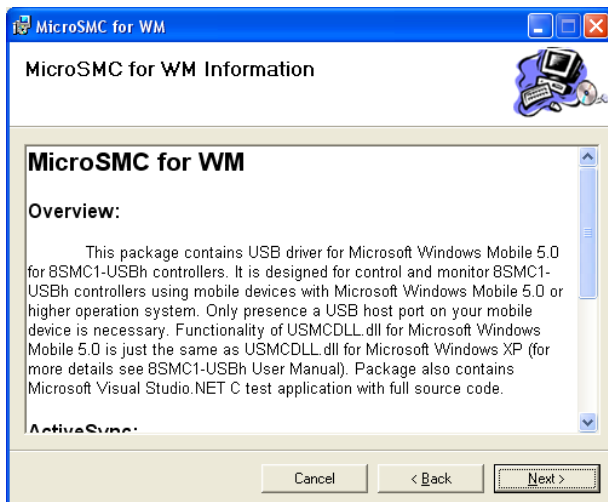

Figure 53. MicroSMC for WM host PC installation 2nd screen
- Read carefully this screen (see Figure 53) and press the "Next>" button.